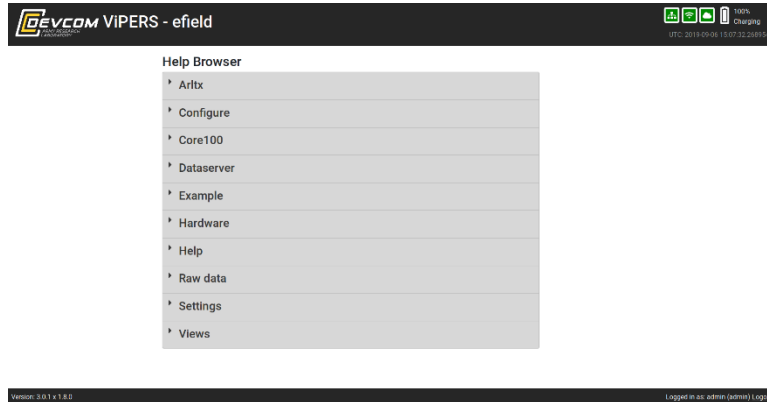

Figure 33. Integrated Help browser.
3.9 Help (9)
The Help (9) page lists support topics for ViPERS pages. The list of subjects corresponds to major features and can be expanded or collapsed. Within each subject are specific Help subpages, which are ordered alphabetically (Figure 33).